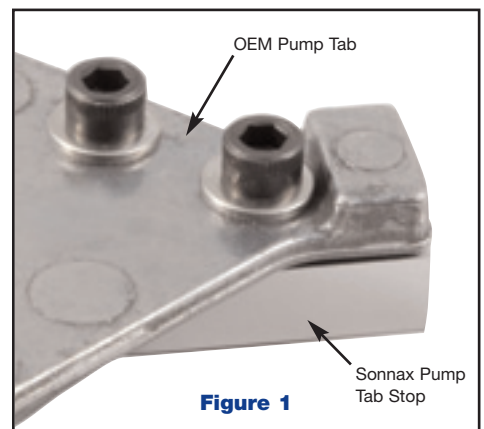

Figure 1
1. The pump tab stop is designed to nest against and beneath the pump tab (*see Figure 1*).